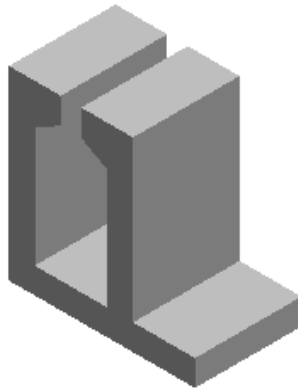
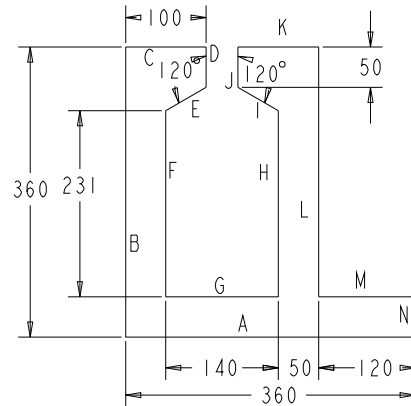

Figure 2-28 Model for Tutorial 2
Figure 2-29 Sketch of the model
In this tutorial, you will draw the sketch for the model shown in Figure 2-28. The sketch is shown in Figure 2-29. For your reference, all entities in the sketch are labeled alphabetically. **(Expected time: 30 min)**
The sketch in Figure 2-29 consists of only lines. For ease of understanding, all lines in the sketch are labeled alphabetically.
9. Now, continue drawing the remaining lines that are shown in Figure 2-29. When the sketch is complete, end the line creation by pressing the middle mouse button. Notice that the sketched entities are dimensioned automatically as you draw them. These dimensions are weak dimensions and appear in gray color.